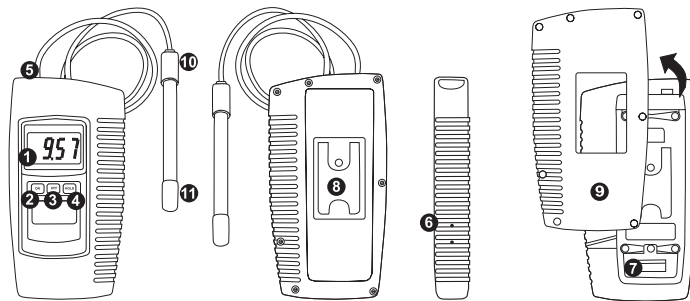

Figure 1
1. Connect the Salt probe to the probe input socket (Figure 1, 5).
5. Press the „Hold Button“ (Figure 1, 4) will hold the measured value and the LCD will indicate a „Hold“ symbol on the display during the measurement. Press the Hold Button again to exit the data hold function.